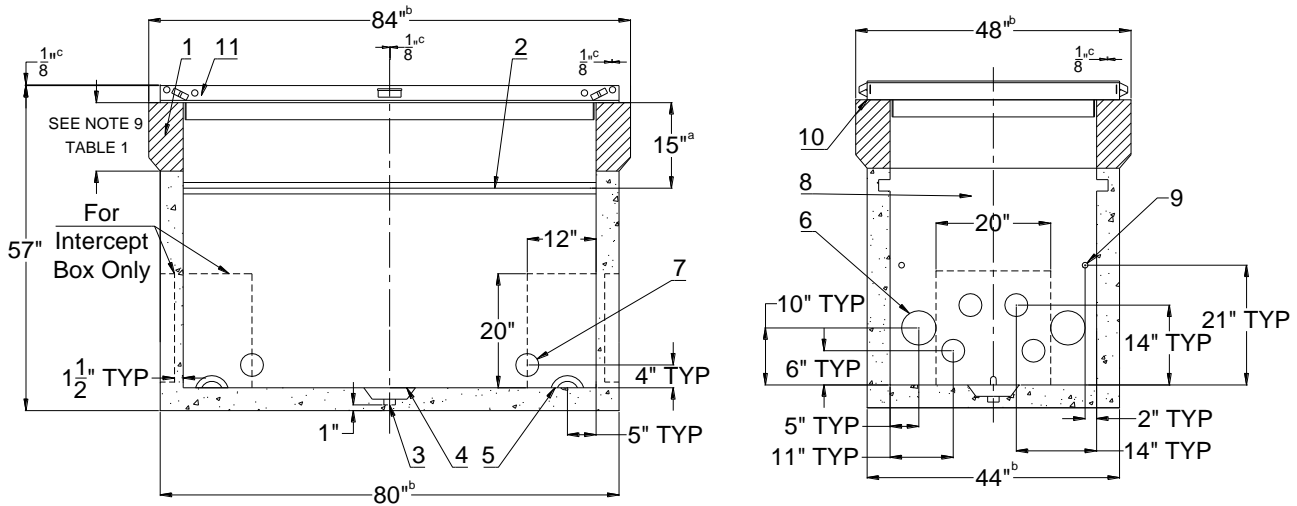

Figure 1. RS-81 Regular or Intercept Box
2. The gap between the precast structure and the lid shall be sealed with mastic or similar material approved by NVE (see Figure 1).